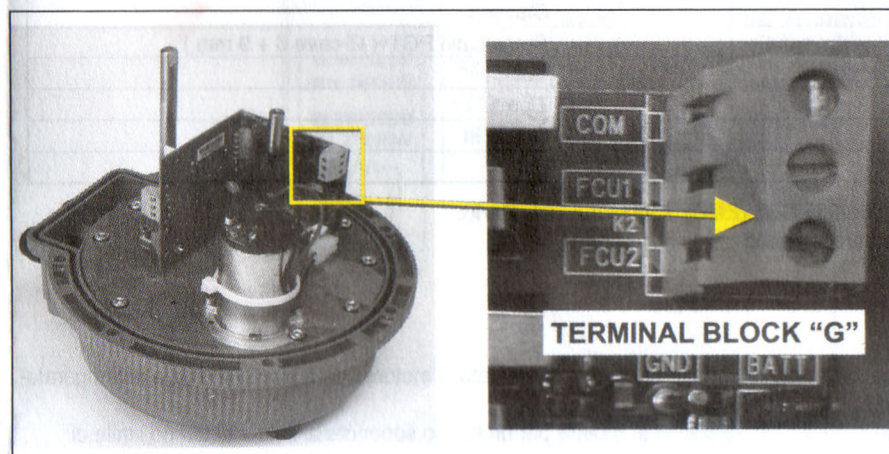

Fig.4 Plate of checking and particular of terminal-block "G"
- Remove position indicator (B) by loosening the screws (C).
- Screw the fasteners (D) to remove the upper cover (A).
- Raise up the cover (A) carefully to avoid to damage the internal electric parts.
- Turn in the electric supply cable (diam. 6 ÷ 9 mm / 0,24÷0,35 inch) by the properly glands (E) (PG11).
- Proceed to connect the cable in its proper terminal-block (F) by looking at the wiring diagram (please also review the tag you find inside the cover) according to the different voltage (fig. 4).
4.4 Connection of signals auxiliary wires to the limit switches (fig.4)